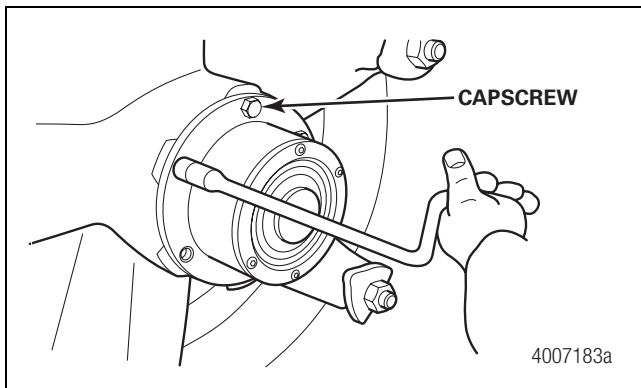

Figure 5
8. Use a 1/2-inch socket to remove the hubcap bolts. Remove the hubcap and hubcap gasket. Do not reuse either the hubcap gasket or grease. Figure 5.